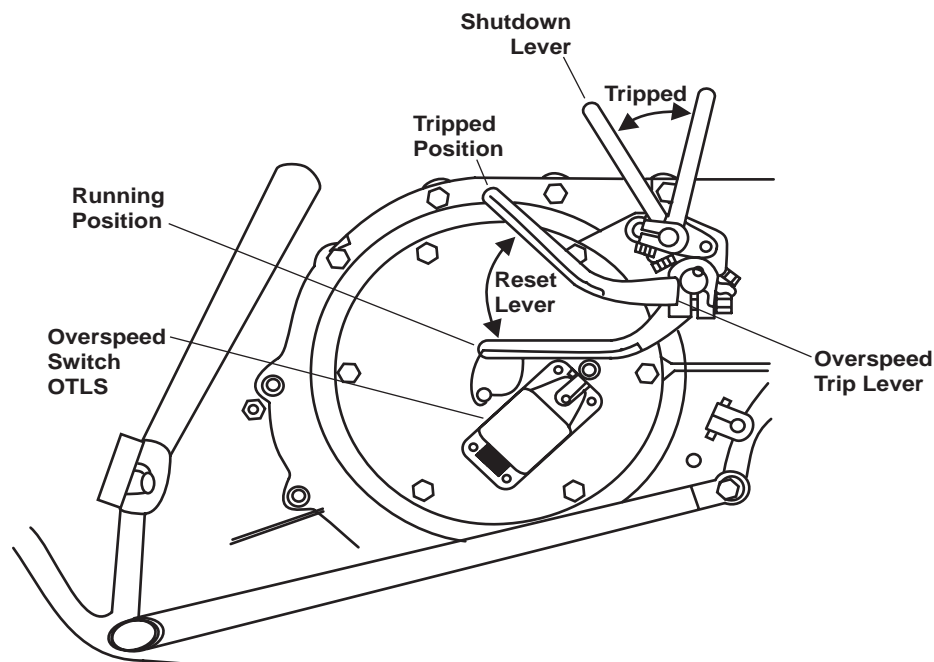

Figure 12. Main Engine Overspeed Trip Lever
22. Ensure that the starboard main engine overspeed trip lever (figure 12) is in the RUNNING (latched) position.
22. Ensure that the port main engine overspeed trip lever (figure 12) is in the RUNNING (latched) position.